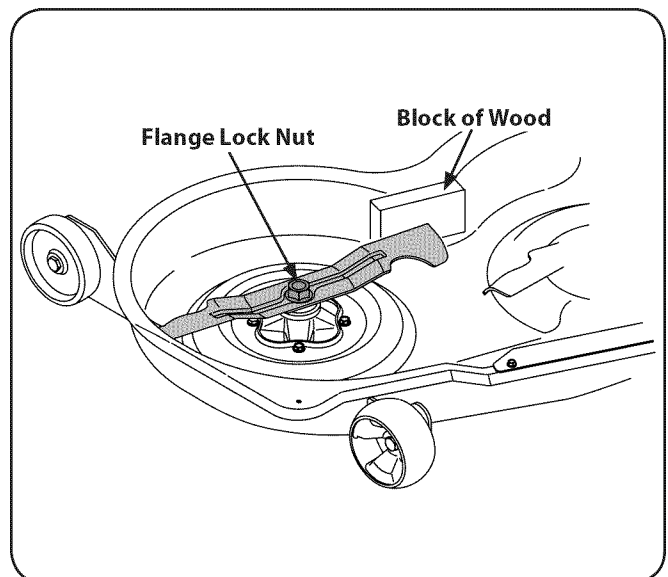

Figure 7-7
2. Place a block of wood between the center deck housing baffle and the cutting blade to act as a stabilizer. See Fig. 7-7.
3. Remove the flange lock nut that secures the blade to the spindle assembly. See Fig. 7-7.